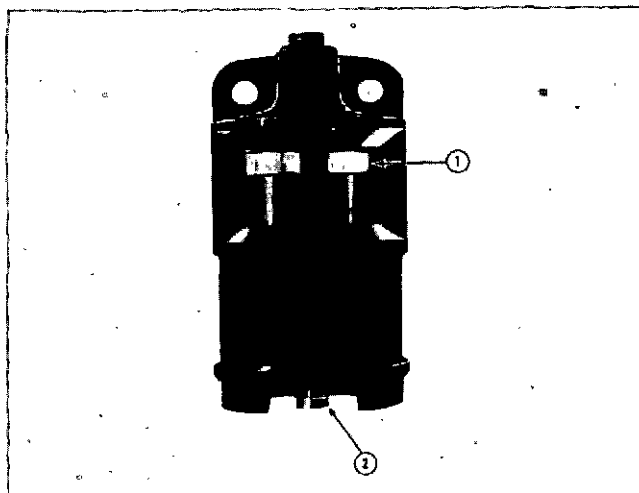

Fig. 10-1-7, CGS20. Air cleaner restriction indicator
1. The best method to indicate change periods for any dry-type air cleaner is by use of a restriction indicator such as shown in Fig. 10-1-7.
2. The restriction indicator signals when to change cartridges. The red flag (1, Fig. 10-1-7) in window gradually rises as cartridge loads with dirt. Do not change cartridge until flag reaches top and locks in position. When locked, flag will remain up after engine is shut down. Change cartridge when flag locks at top. After changing cartridge, reset indicator by pushing re-set button (2). Push button all the way in firmly; then release. If button sticks, repeat pushing slowly.